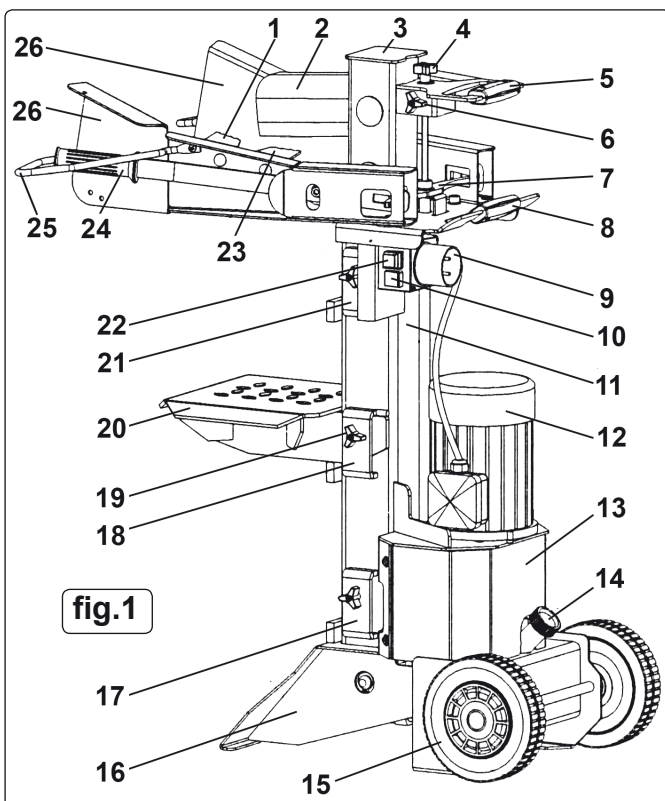

fig.1
(Refer to fig.1 below). The log splitter has an electrically powered hydraulic ram situated inside the lower hollow upright steel section. The ram is usually fully extended at rest and is connected to the upper hollow steel section behind the splitting wedge (2). When the motor is switched on and the two control levers are operated the ram retracts and draws the splitting wedge downwards to split the log situated on the table.
- 3.1 **Serrated Log Clamp.** Grips log when pressure is applied through the control levers (24).